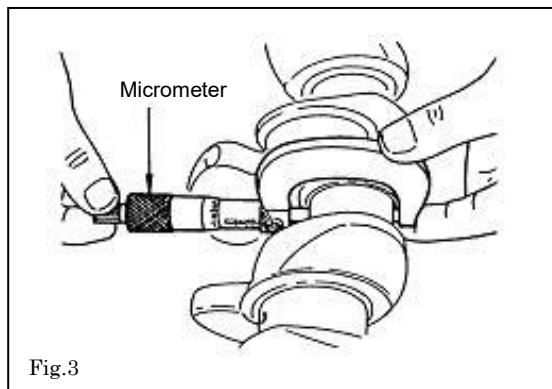

Fig.3
Or, measure the outer diameter of the Crankshaft Pin. (See figure 3 and 4)
3.5 When measuring the crankpin, refer to Figures 3 and 4 and measure the diameter of the crankshaft pin using a micrometer. (Use a large value for calculation.)